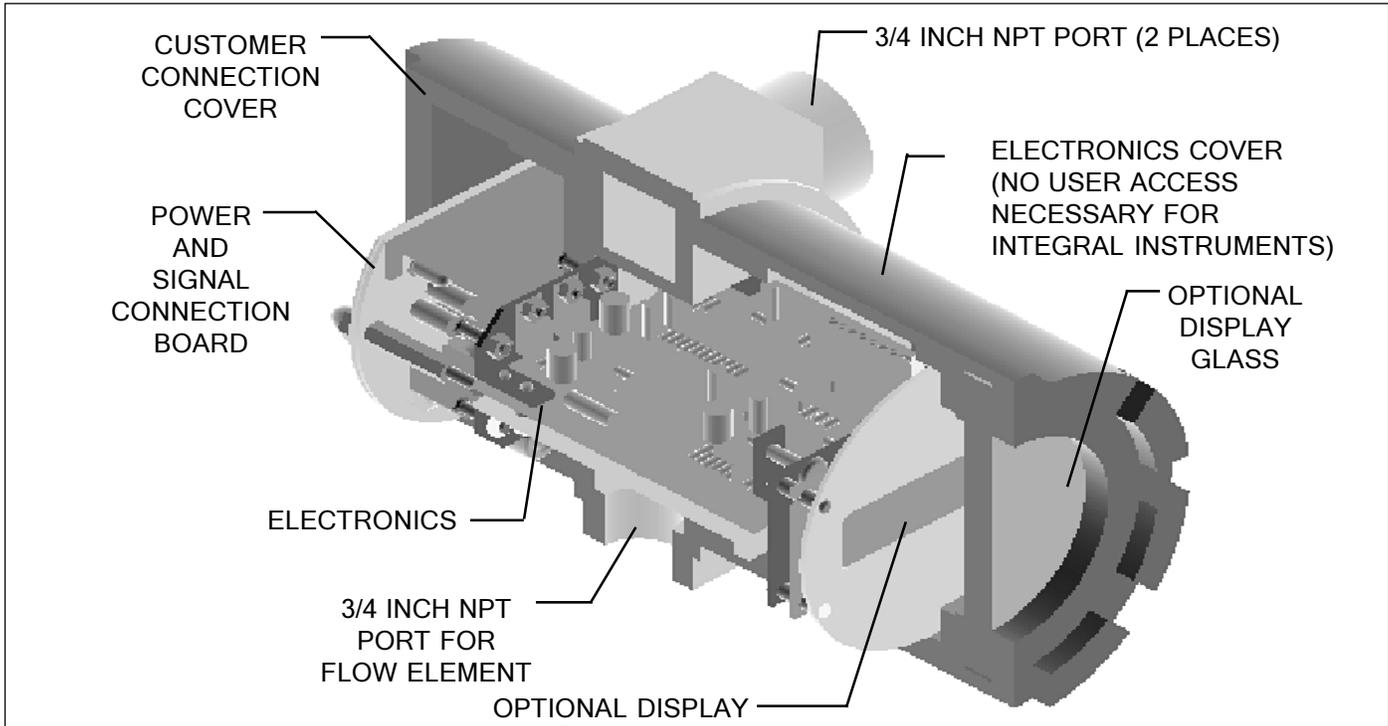
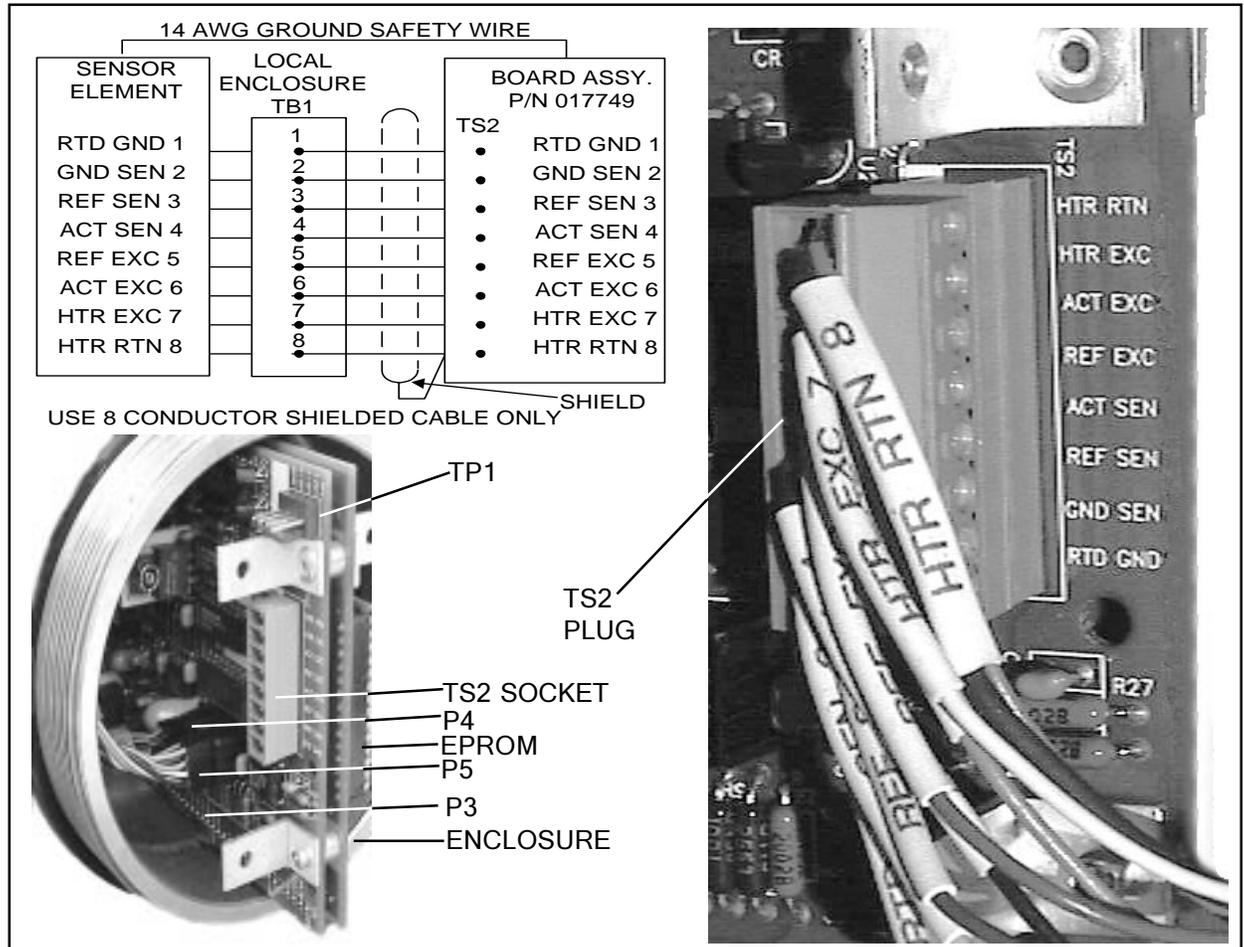
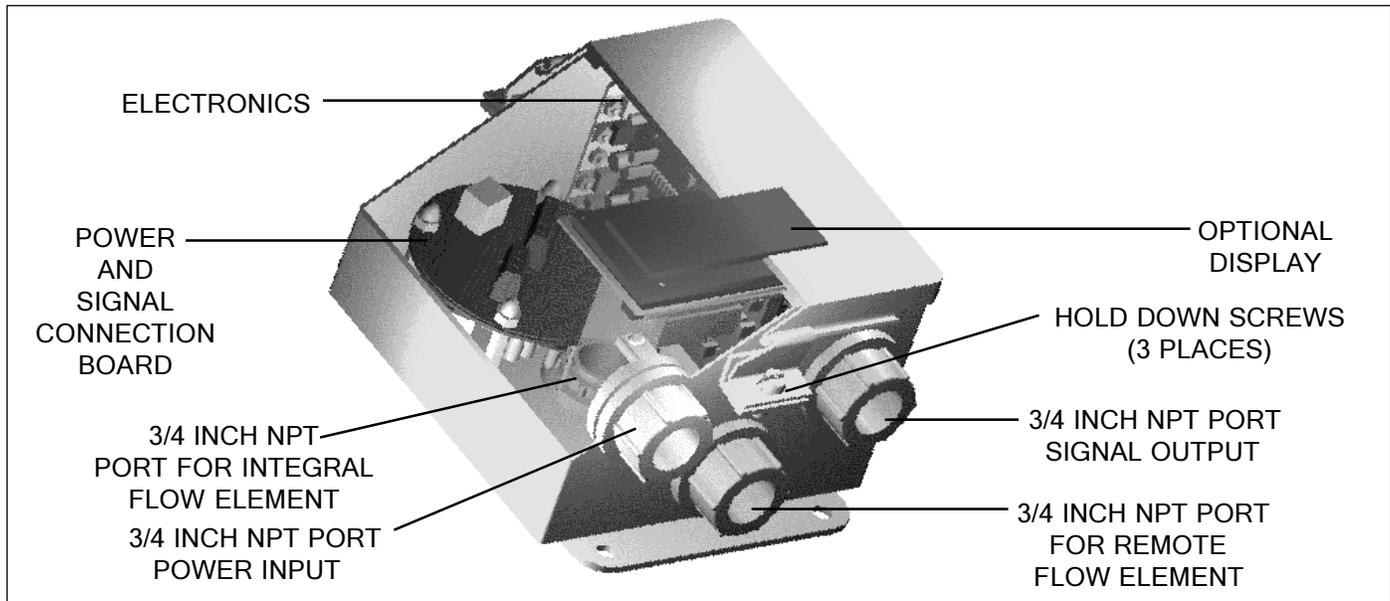

Figure 2-3. Circuit Board Placement
Figure 2-5. Remote Wiring Diagram
Figure 2-6. Optional Carbon Steel Enclosure
1. To wire the instrument remove the customer connection cover from the instrument by loosening the Allen head screw at the base of the cover. Unscrew the cover shown in Figure 2-3.
9. For remote instruments only: The flow element wires should be routed through the 3/4 inch NPT port for the flow element as shown in Figure 2-3. Connect the flow element wires to TS2 on the electronics assembly according to Figure 2-5. Connect the cable shield to HTR RTN. Leave the other end of the shield floating. A 14 AWG ground wire should also be routed between the enclosures (wire terminals are supplied in the kit).
1. To wire the instrument loosen 3 cover hold down screws and open the cover. See Figure 2-6.
8. For remote instruments only, (the flow element is in a separate enclosure from the electronics): The flow element wires should be routed through the 3/4 inch NPT port for the flow element as shown in Figure 2-6. Connect the flow element wires to TS2 on the electronics assembly according to Figure 2-5. Connect the cable shield to HTR RTN. Leave the other end of the shield floating.
Note: Connecting the shield in any other way will decrease the accuracy of the instrument. See Figure 2-5 for the wiring diagram.